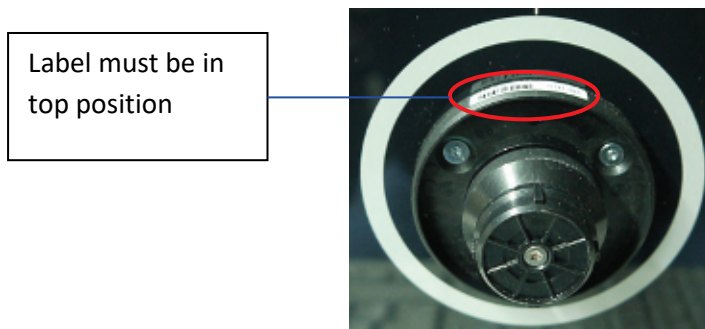

Fig. 50: Position of the label on the cap holder of the rotary/push button
- Attach the holder of the rotary/push button so that the white label on the side of the cap holder is in top position (see Fig. 50).